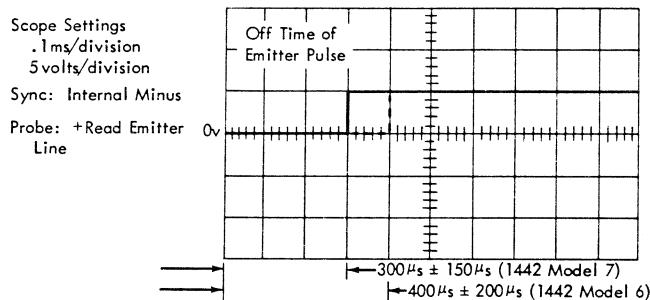

Figure 4-1. Read Emitter Inactive Duration
2. Scope the output of the read emitter amplifier (Figure 4-1) and check that the off (inactive) time of the pulse is 400 usec  $\pm$  200 usec for Model 6; 300 usec  $\pm$  150 usec for Model 7.